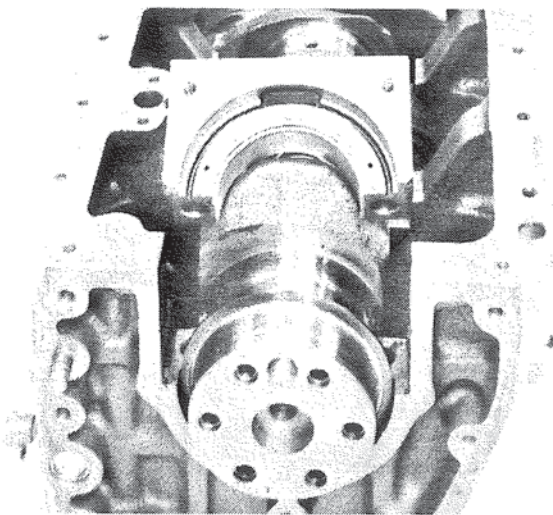

Figure 50. Installing Thrust Bearings.
6. Place bearings in No. 1 and No. 7 main bearing caps. Install thrust bearings to No. 7 bearing cap. Figure 50.